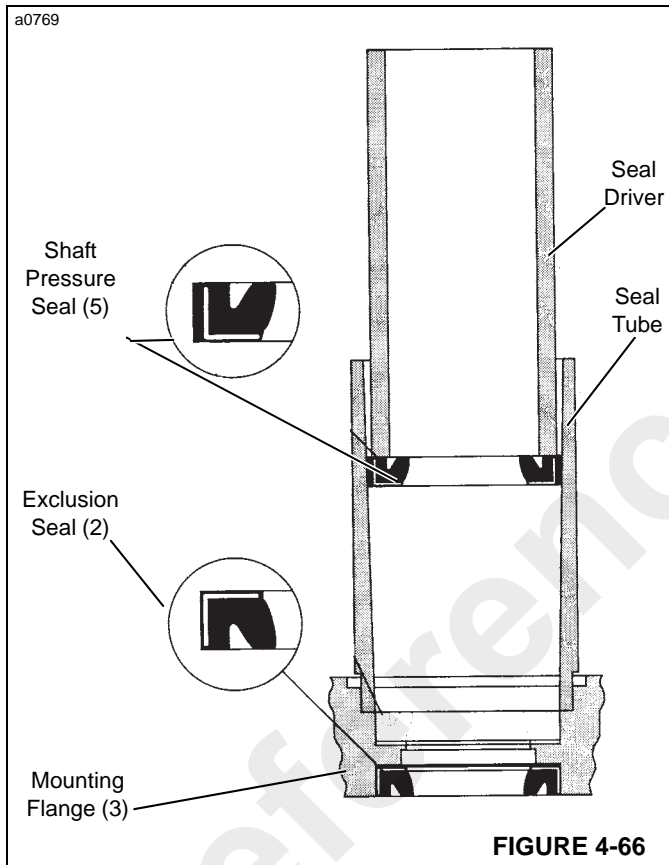

FIGURE 4-66
4. Visually check seal seats in the mounting flange (3, Figure 4-66) for scratches or other marks that might damage the seals (5). Check for cracks in flange (3) that could cause leakage.
5. Install exclusion seal (2) in flange (3) with the lips of the seal facing out. Carefully press the exclusion seal in place.
6. Install shaft pressure seal (5) in flange (3) with lips of seal face up using a suitable driver. See Figure 4-66. Carefully press the pressure seal in place.